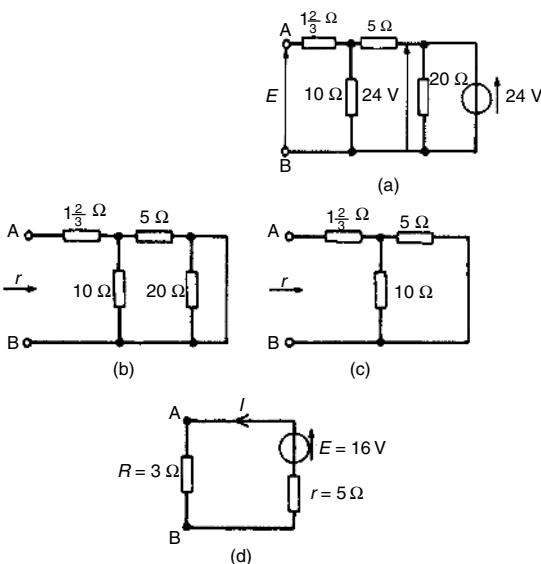

Figure 13.45
- (i) The $3\ \Omega$ resistance is removed from the circuit as shown in Fig. 13.45(a).
- (iii) Removing the source of e.m.f. and replacing it by its internal resistance means that the $20\ \Omega$ resistance is short-circuited as shown in Fig. 13.45(b) since its internal resistance is zero. The $20\ \Omega$ resistance may thus be removed as shown in Fig. 13.45(c) (see Section 13.4 (vi)).
From Fig. 13.45(c), resistance,
- (iv) The equivalent Thévenin's circuit is shown in Fig. 13.45(d), from which, current,